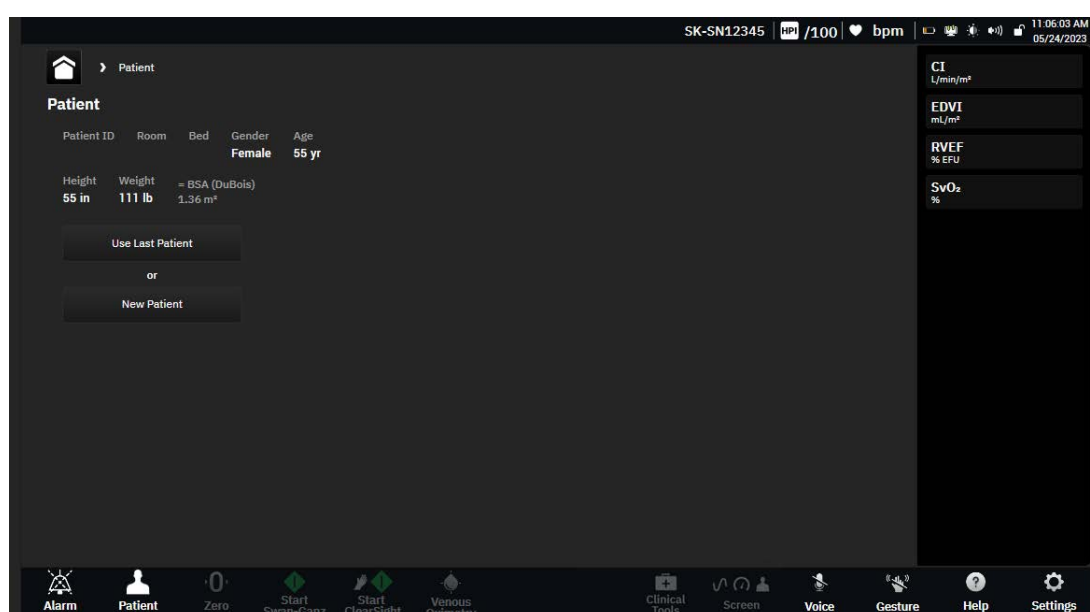

Figure 5-2 New or continuing patient screen
After the system is turned on, the user has the option to either continue monitoring the last patient or to start monitoring a new patient. See figure 5-2 on page 124.
- 1 After turning on the monitor, the new or continuing patient screen appears (figure 5-2). Touch **New Patient** and continue to step 2.